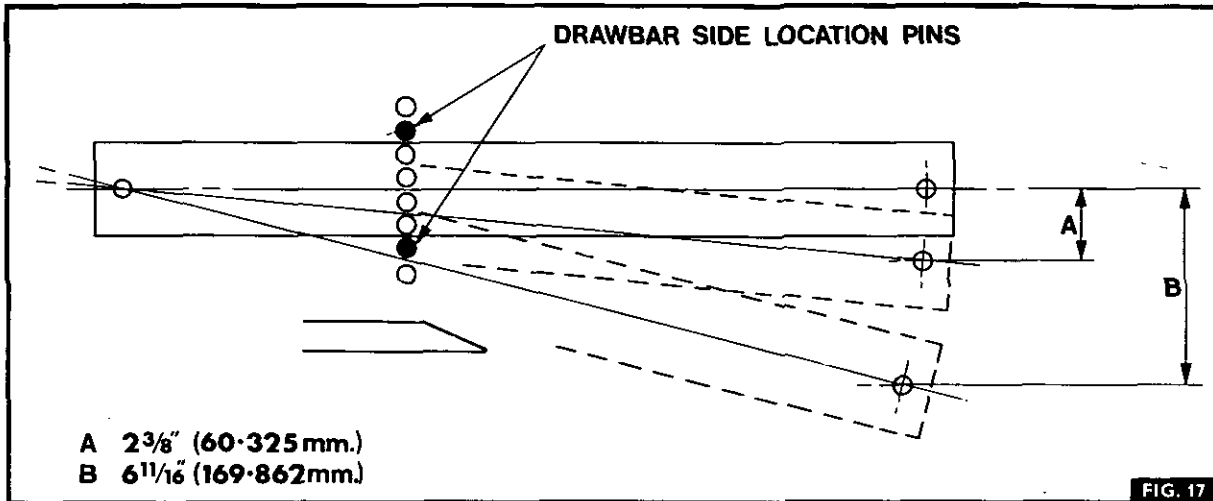

FIG. 17
3. Slide the drawbar between the headed pins at the rear of the mounting frame and re-fit the securing pin. The drawbar can be adjusted radially as stated for the Mk.2 swinging drawbar (see figure 17).